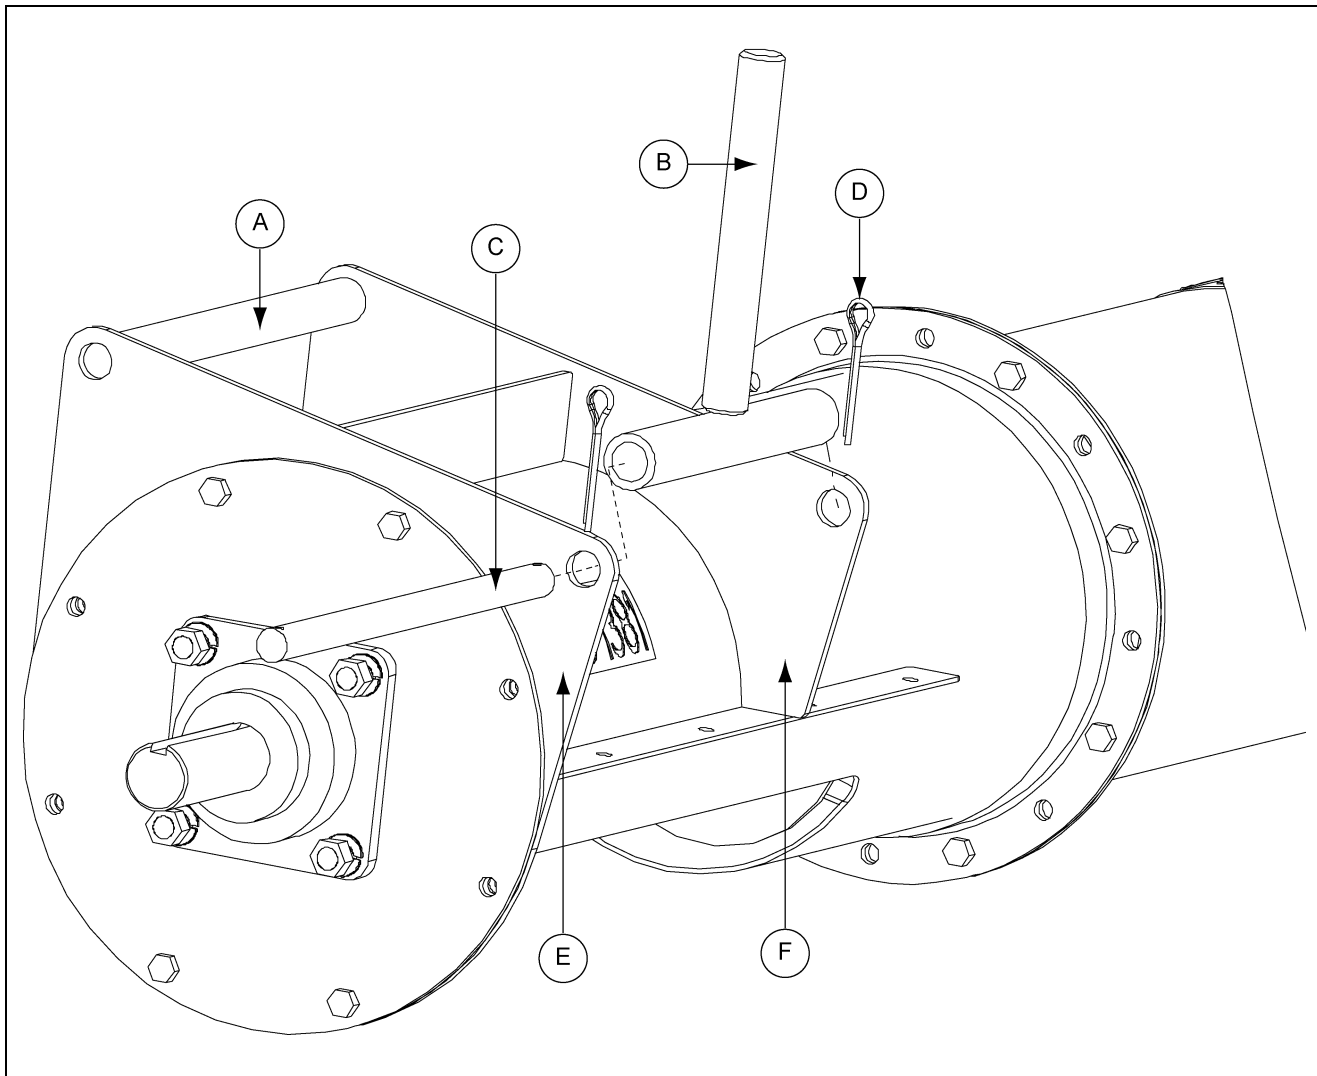

Figure 4N
1. Place motor mount adjuster (B) between the back plate (F) and head plate (E) on the discharge tube.
2. Insert pivot rod (C) through the tube plates and motor mount adjuster (B). Secure in place with two (2) 3/16" x 2" cotter pins (D). (See Figure 4N.)